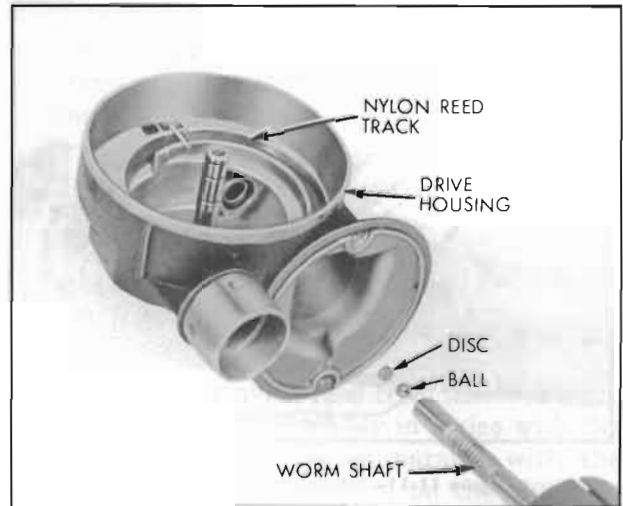

Figure 11-10—Removal of Motor Assembly
(1) Remove the 2 screws from the top of the motor.
(2) Separate the motor from the drive assembly housing at the point where they join, and lift the motor case away. The armature will remain with the drive shaft (worm shaft) still extending into the housing. Remove the armature worm shaft making sure that the ball and disc at the end of the worm shaft do not fall out. See Figure 11-10.
(3) Assemble new motor into drive assembly housing making sure that there is end play in the worm shaft. Motor should run evenly, if not, tap motor cap lightly to align the self-aligning bearings.